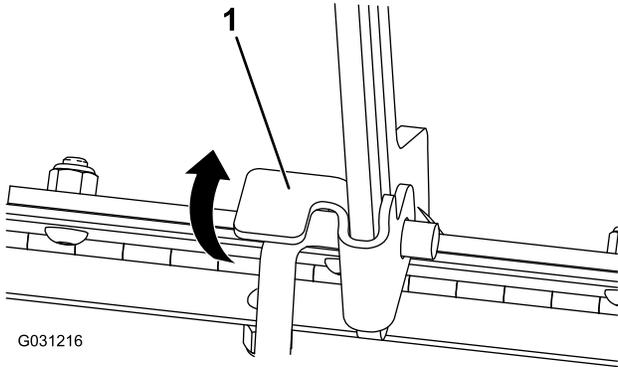

Figure 37
1. Lift up on the tab securing the prop-rod (Figure 37)